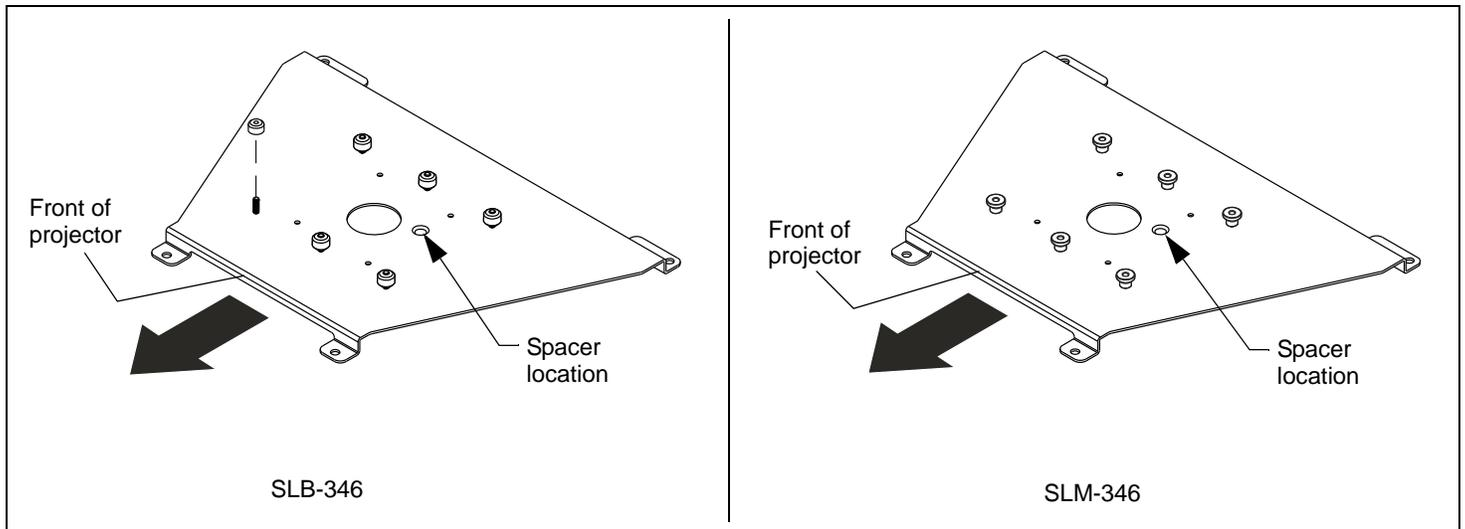

Figure 1
3. Place one nylon spacer over threaded insert near center of projector bottom. (See Figure 1)
4. Place the interface bracket onto the bottom of the projector, aligning the mounting holes in the bracket tabs with the threaded inserts in the bottom of the projector and ensuring that front edge of bracket points towards front of projector. (See Figure 1)